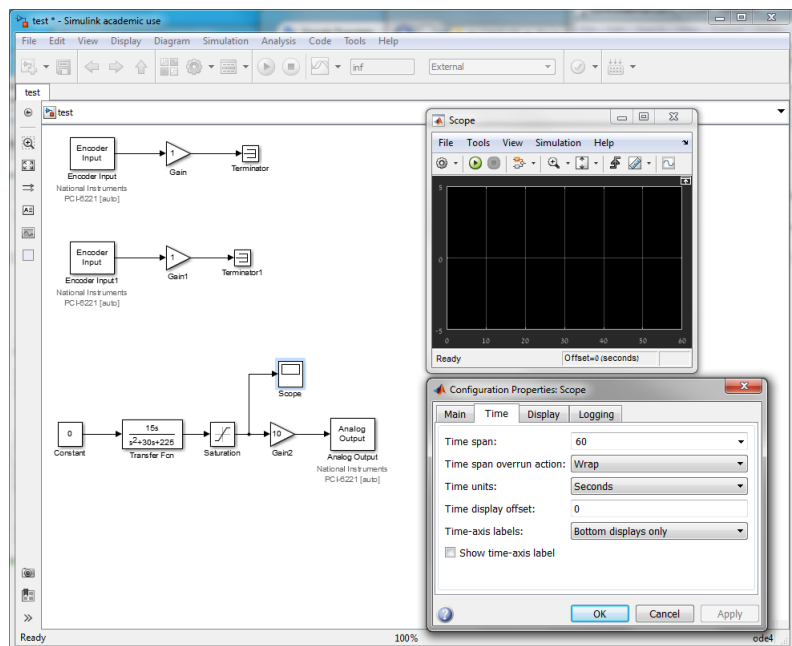

Figure 22: 'Time' pane of the 'Configuration Properties...' button in the Time Scope block.
- the options in the 'Time' pane can be selected as in Figure 22